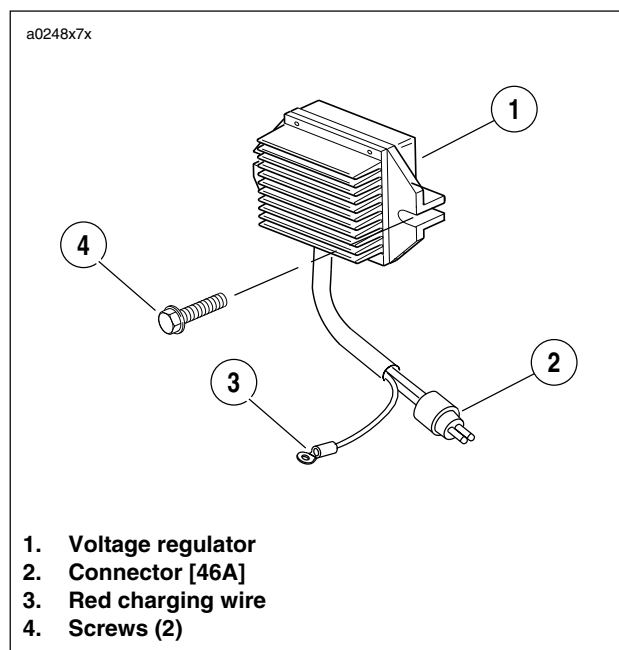

Figure 7-57. Voltage Regulator
- b. See Figure 7-57. Disconnect red charging wire from gold post of main circuit breaker.
2. See Figure 7-57. Attach **new** voltage regulator using two screws. Tighten screws to 48-72 **in-lbs** (5-8 Nm).